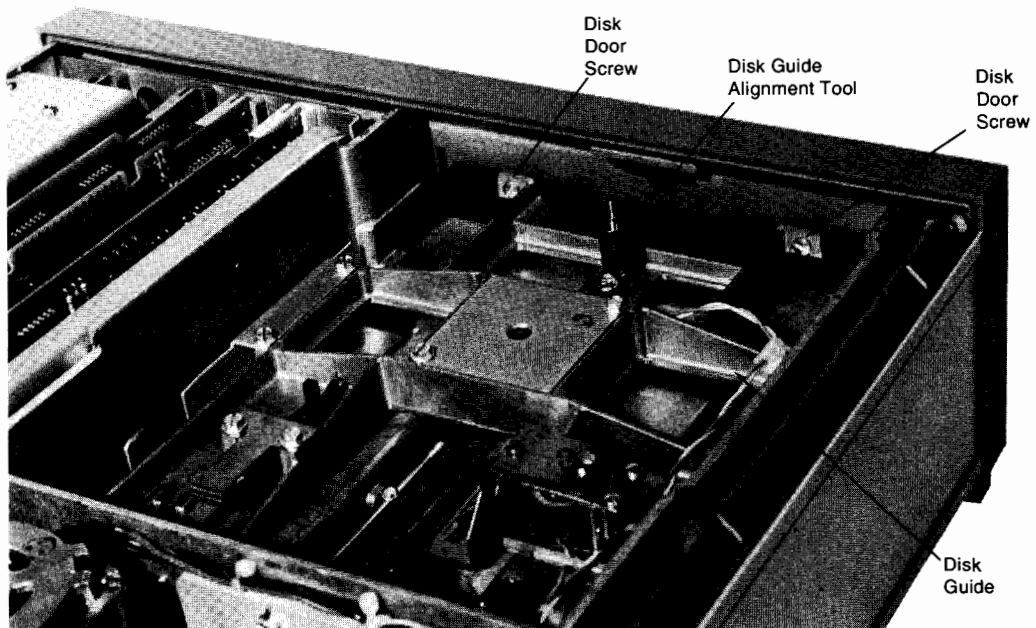

Figure 3-16. Disk Guide Adjustment
1. Insert the disk guide alignment tool through the adjustment hole in the disk guide (see Figure 3-16) and screw it into the base casting (hand tighten).